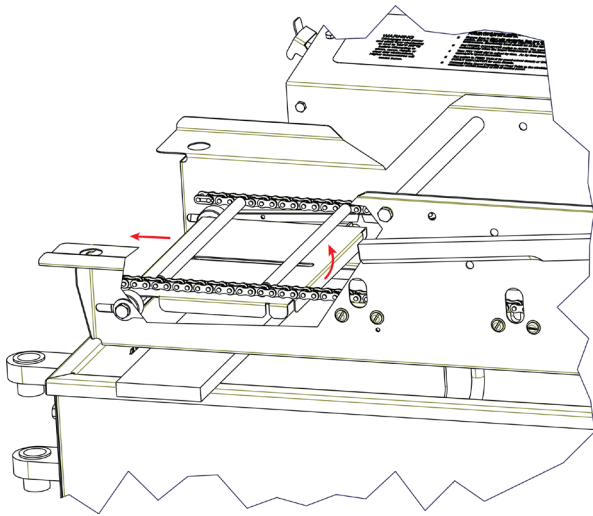

Figure 14
10. To clean the drop plate, remove it by lifting its outfeed end and sliding it toward the infeed side of the conveyor. See Figure 14.